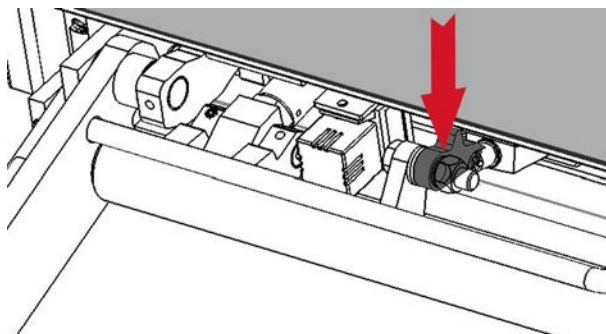
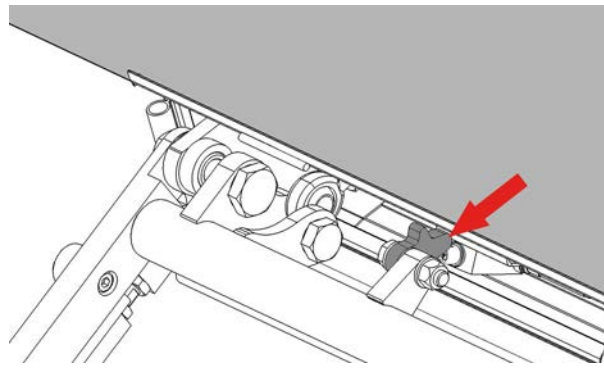

Figure 44: Adjusting the Switching Cam, View from Above (K70)
Figure 45: Adjusting the Switching Cam, View from Above (K90)
The switching point for the retract position is set by a switching cam (position: see Figure 44 and Figure 45, page 65). The switching cam operates a position switch on the internal carriage of the cassette lift as soon as the retract position is reached.
- ⇒ Adjust the switching cam by hitting it lightly with a hammer from above (see Figure 44 and Figure 45, page 65). In order to prevent damage to the switching cam, place a protective block (e.g. of wood or aluminium) between the hammer and switching cam.